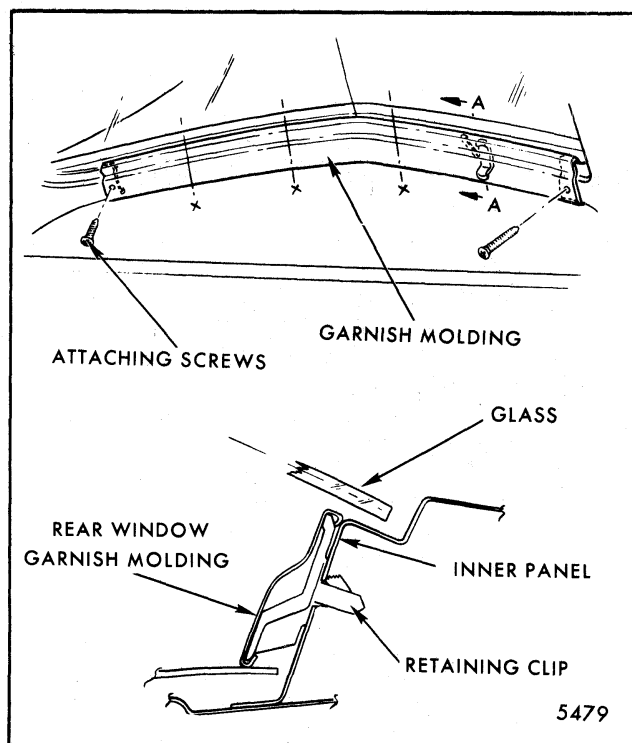

Fig. 9-82-Back Window Lower Garnish Molding - "B-57" Styles
1. On "B-57" styles access to attaching clips is gained through the rear compartment. To remove molding and clips, depress tab of clip and push to inside of unit (Fig. 9-82).